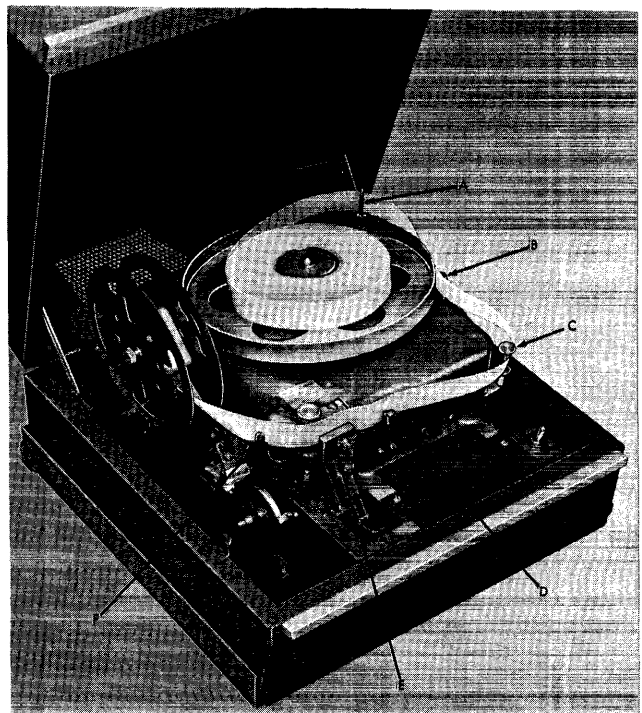

Figure 35. IBM 1624 Tape Punch
The tape punch (Figure 35), housed below the tape reader in the IBM 1621, punches data from core storage into paper tape at the rate of 15 characters per second. The characters are sent serially from core storage, starting with the location addressed by an output instruction. Each character is translated to 8-track code before being punched.
Place the roll of unpunched tape on the turntable and thread as shown in Figure 35. The tape retainer (F) must be rotated to the left by pushing back on its extended left edge. This also moves the tape lever (D) forward to facilitate threading. An unwound section of tape is then threaded as follows:
1. Through tape guide (A).
2. Inside tape guide (B).
3. In front of tape tension guide (C).
4. In back of tape lever (D).
5. Between the punching mechanism and the punch guide block (E), which can be seen in front of the tape.
6. Between the guides on the tape retainer (F). With the end of the tape held to the left, the tape retainer (F) is returned to normal position, which causes the pins on the feed roll to pierce through the blank tape. The tape lever simultaneously returns to normal position with the top guide above the tape.